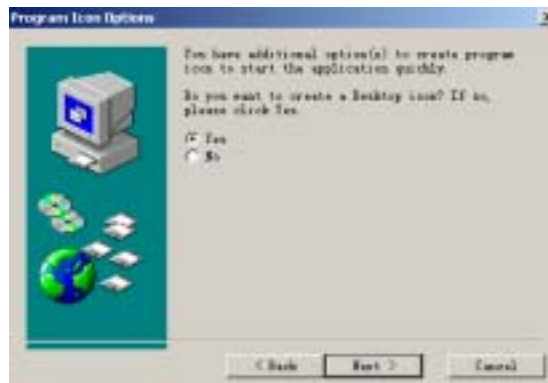

Fig.1-6
7. The program then asks whether you want to create a shortcut icon of Ucamcam V8 on the desktop. (Fig.1-6). It is suggested to select Yes.